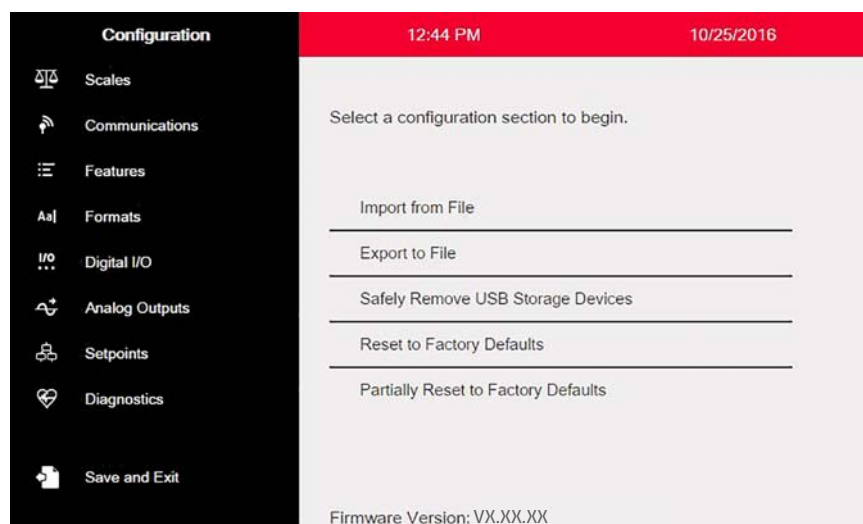
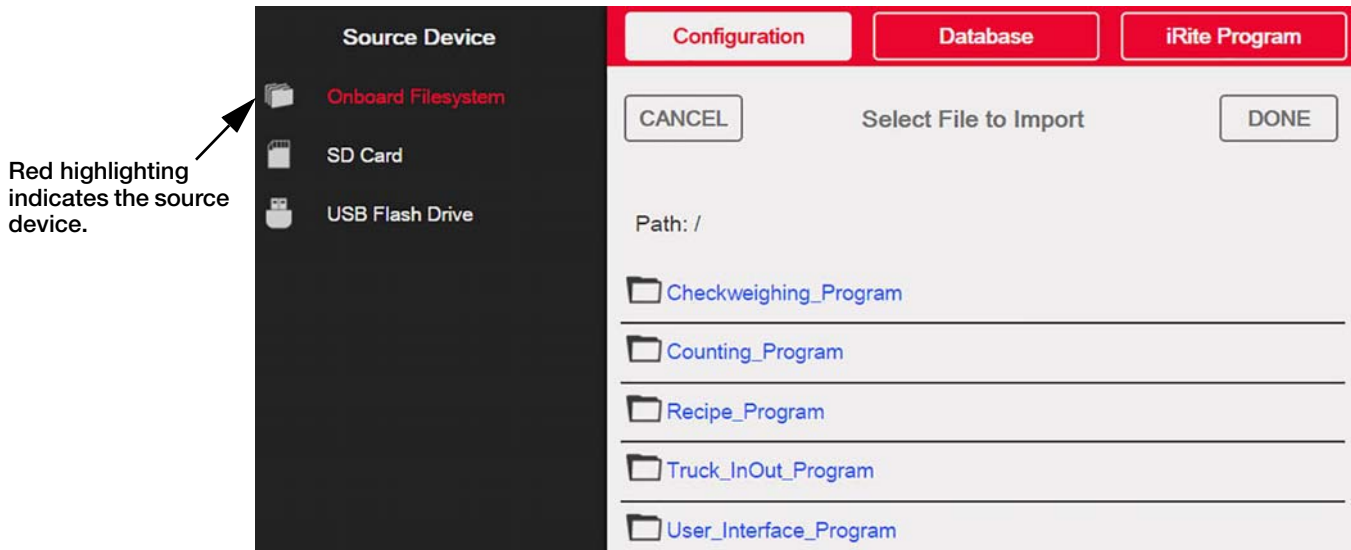

Figure 13-1. Configuration Main Menu
Figure 13-2. Import Configuration
**Note** The Import Configuration screen looks the same whether importing from an onboard filesystem, a micro SD card or a flash drive. The only difference is that the source device will be highlighted in red on the left side of the screen. For an example, in Figure 13-2, a file is being imported from an onboard filesystem.
2. Press *Import from File*. See Figure 13-1. The Import Screen (Figure 13-2) will display. Load both the .rev and .cod files to use the built-in application programs.
4. Select *Import from File* (see Figure 13-1). The Import Screen (Figure 13-2) will display.
2. Press *Import from File*, see Figure 13-1. The Import Screen (Figure 13-2) will display.
2. Press *Import from File* from above diagram, see Figure 13-1. The Import Screen (Figure 13-2) will display.